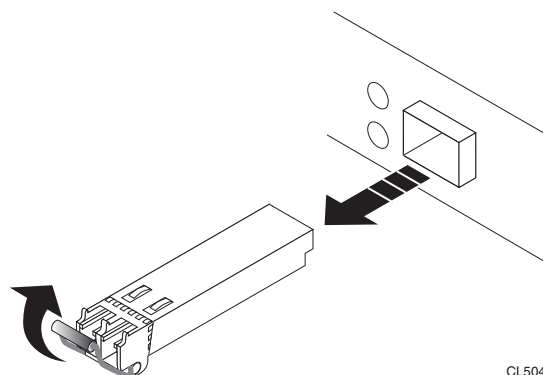

Figure 86 Removing an optical SFP module from a switch port
- Remove the faulted optical SFP module (Figure 86):